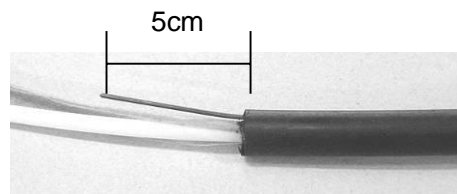

Figure 2
2) Cut off the core wire (Figure 2)